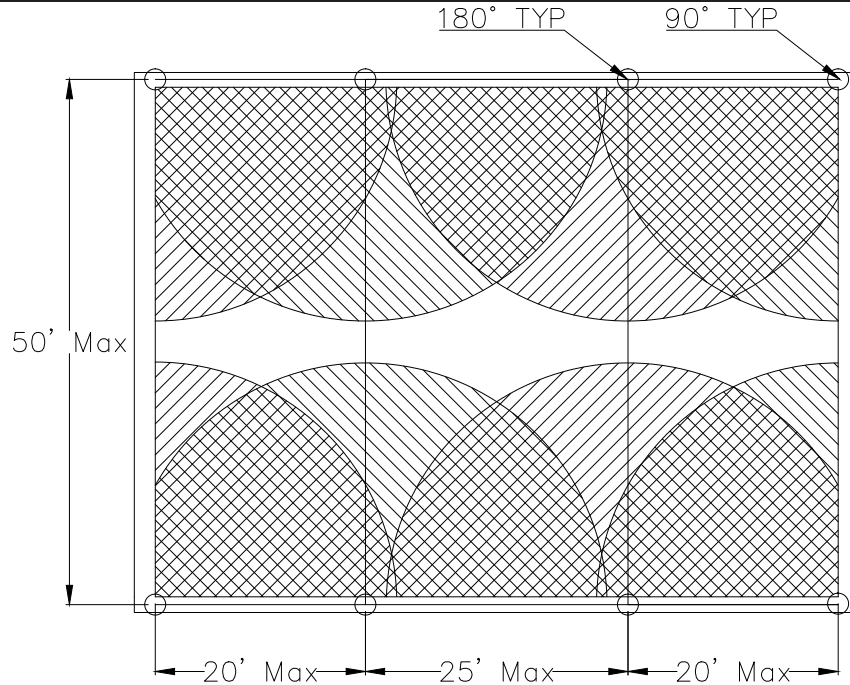

Figure 2a - Typical Nozzle and Trench Heliport using 90° Nozzles in Corners and 180° Nozzles in Centers
- Refer to Figures 2a & 2b for an example of spacing Grate Nozzles. Standard practice is to locate the Grate Nozzles so that the maximum distance between nozzles in a trench is 25' and that trench drains are not located in excess of 50' on center, (20' maximum from walls). Configurations other than this may be acceptable, contact Viking for designs other than what is indicated.